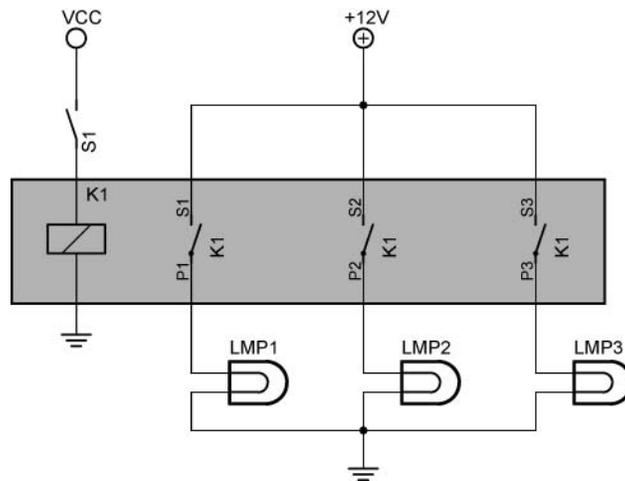

**Figure 12: SPDT Relay Acting as a SPST Relay**
- Just as a SPDT switch can act as a SPST switch, a SPDT relay can serve as a SPST relay by not making connection to one of the contacts. Refer to Figure 12.